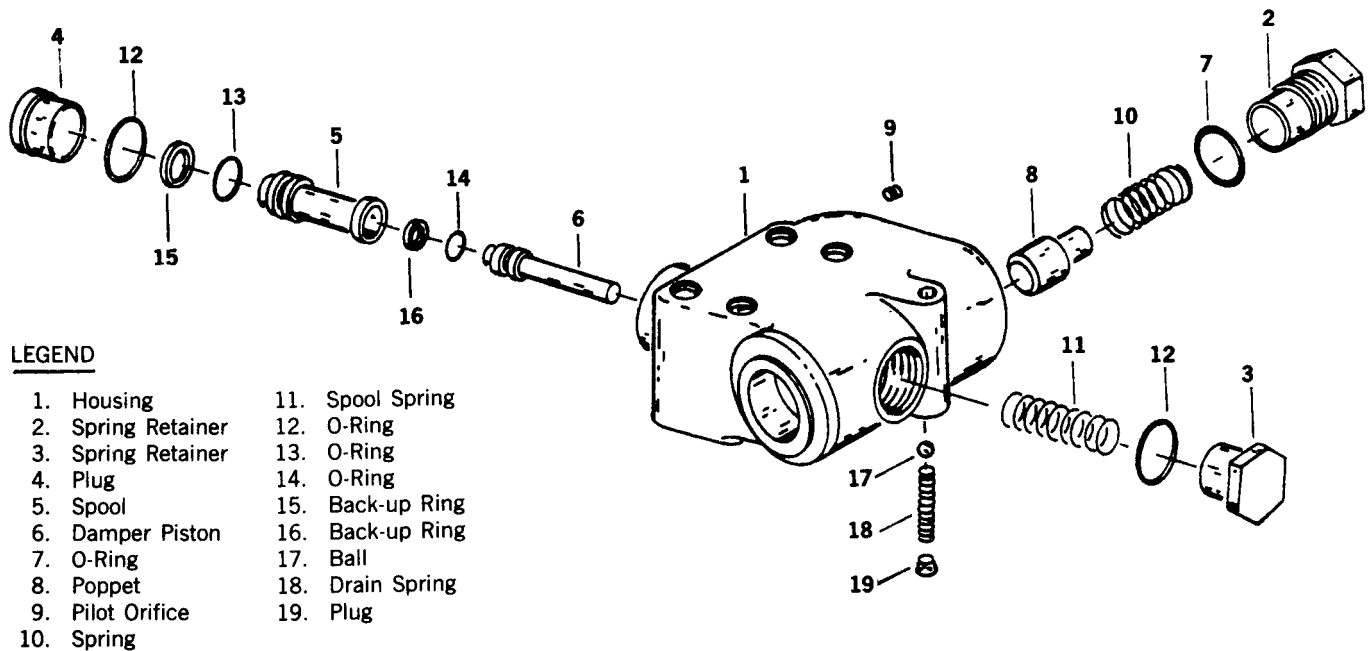

Figure 11-5. Brake Valve
b. Remove capscrews (47) securing brake valve (44) to motor (42). Discard O-ring (80).
c. Unscrew plug (4, figure 11-5) from housing (1) and remove spool (5), and damper piston (6).
d. Remove O-ring (12) from plug (4), and backup ring (15) and O-ring (13) from O.D. of spool (5). Discard O-rings.
e. Withdraw damper piston (6) from inside spool (5). Remove backup ring (16) and O-ring (14) from spool and discard.
f. Unscrew spring retainer (3) and remove spring (11). Discard O-ring (12).
g. Remove plug (19), drain spring (18) and ball (17).
h. Unscrew spring retainer (2), and remove spring (10) and poppet (8). Discard O-ring (7).
a. Place O-ring (7, figure 11-5) against sealing face of spring retainer (2). Insert spring (10) and poppet (8) into spring retainer and screw into housing (1).
b. Insert ball (17), spring (18) into housing (1) and retain in place with plug (19).
c. Place O-ring (12) against sealing face of spring retainer (3) and screw into housing (1). Place O-ring 12 against sealing face of plug (4).
d. Place back-up ring (15) and O-ring (13) on O.D. of spool (5). Place backup ring (16) and O-ring (14) on damper piston (6). Insert piston into spool. Place spool spring (11) around O.D. of piston and enter into housing (1). Ensure spool spring is firmly sealed into spring retainer (3). Retain all parts by screwing plug (4) into housing (1).